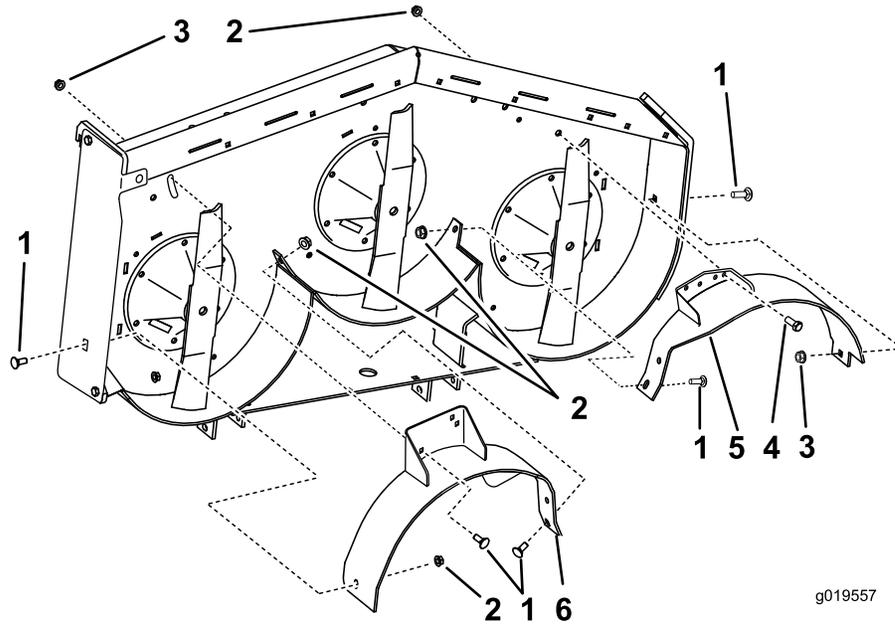

Figure 11
2. Loosely install the right baffle to the discharge plate with 1 carriage bolt (3/8 x 1 inch) and a flange nut (small flange) (3/8 inch) as shown in Figure 11.
3. Loosely install the right baffle to the top of the mower deck with 1 carriage bolt (3/8 x 1 inch) and 1 flange nut (large flange), (3/8 inch) as shown in Figure 11.
4. Loosely install the right baffle to the mower deck with 1 carriage bolt (3/8 x 1 inch) and 1 flange nut (small flange) (3/8 inch) as shown in Figure 11.
6. Loosely install the left baffle to the top of the mower deck with 1 bolt (3/8 x 1 inch) and 1 flange nut (small flange) (3/8 inch) as shown in Figure 11.
7. Loosely install the left baffle to the mower deck with 1 carriage bolt (3/8 x 1 inch) and 1 flange nut (small flange) (3/8 inch) as shown in Figure 11.
8. Loosely install the left baffle to the side of the mower deck with 1 carriage bolt (3/8 x 1 inch) and 1 flange nut (small flange) (3/8 inch) as shown in Figure 11.